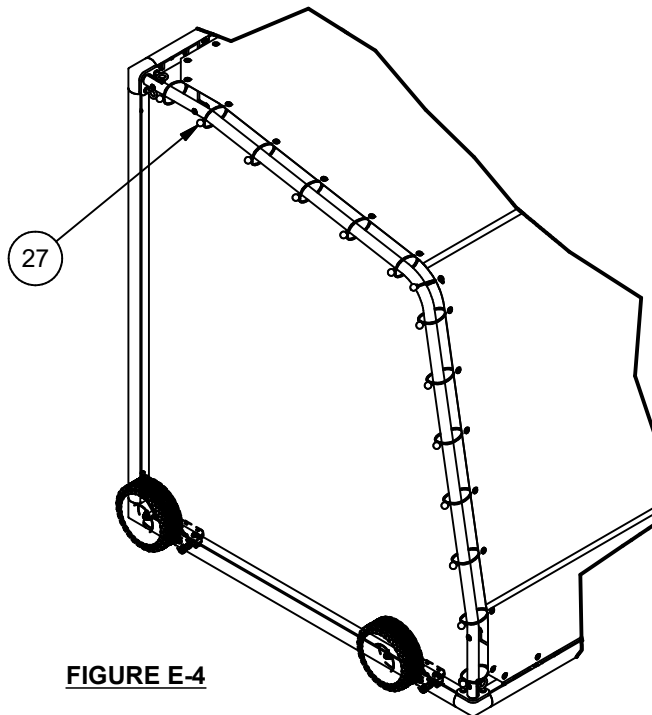

FIGURE E-4
9. Complete installing bungee balls on the remaining grommets in the sides of the rear cover as shown in Figure E-4.